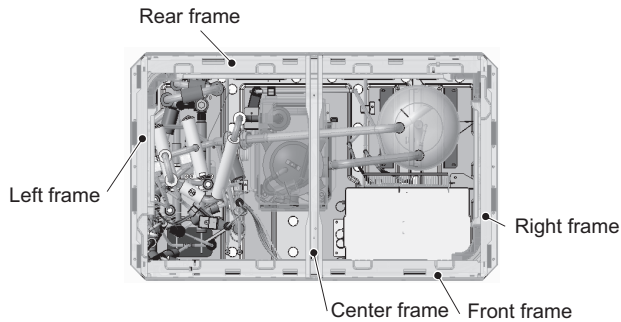

Figure 14
(18) To remove the front heat exchanger, first remove the front, left, right, and center frames by unscrewing the 14 screws. (See Figure 14.)
To remove the rear heat exchanger, remove the rear frame in addition to the front, left, right, and center frames by unscrewing the 16 screws. (See Figure 14.)